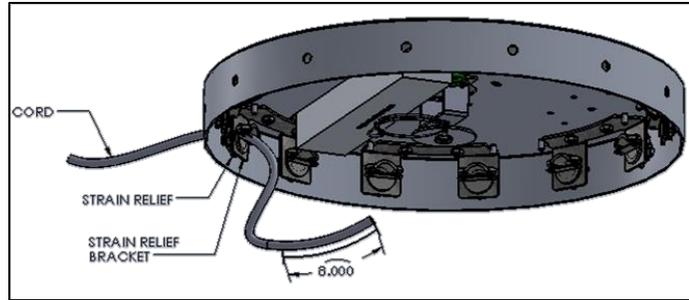

FIG. 13 -CORD INSTALLATION WITH BRACKET
- Hang the fixture cord into the SWAG HOOK and adjust the desired height. Run the cord back to the CANOPY and measure 8" past the STRAIN RELIEF BRACKETS and make a mark. Cut the CORD so that a minimum of 8" of CORD is left after the STRAIN RELIEF as shown in FIG. 13.